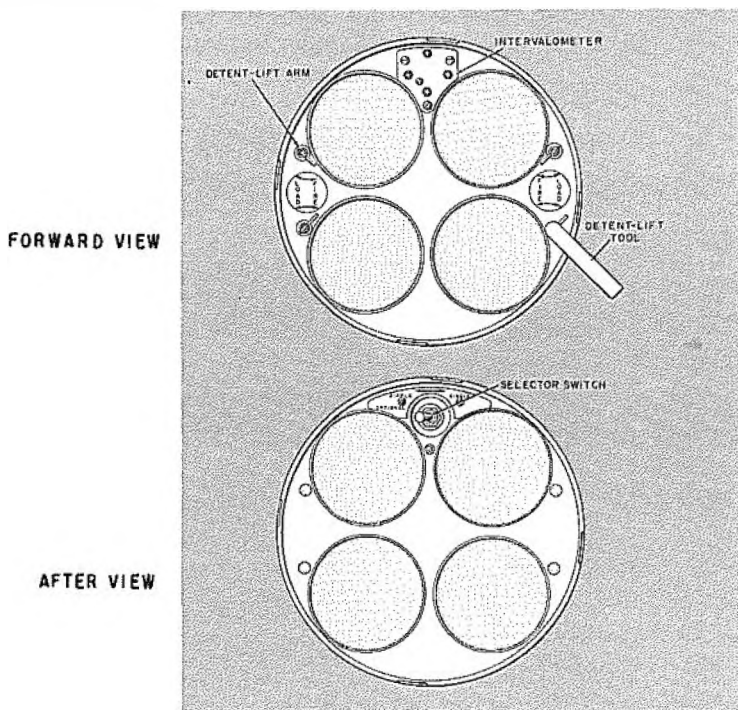

FIG. 17. Forward and After View of the Launcher.
through the intervalometer (Figure 17). The intervalometer, located in the center-section forward retainer ring, is so designed that when single-fire is employed, the intervalometer fires one rocket on each ignition pulse from the aircraft. When ripple-fire is employed, the intervalometer converts the ignition pulse into a ripple pulse and fires all rockets at approximately 100-millisecond intervals. It is necessary to keep the firing circuit energized continuously for 0.5 second to ensure a complete fire-out on ripple firing. When the intervalometer has made a complete four-round firing cycle, it automatically homes on the original starting point (ZERO) and will not recycle without first de-energizing the circuit, then re-energizing it. The intervalometer contacts are so arranged that when the intervalometer is at rest or stopped, the rocket squib leads are shorted.
8. Set the selector switch on the launcher to *RIPPLE-OPTIONAL* or *SINGLE* position (Figure 17) as indicated by the type of aircraft or mission.